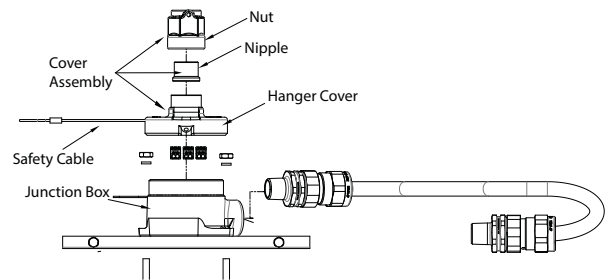

Figure 11
10. Remove the cover assembly from the junction box (see Figure 11).
13. With the nut fully tightened, screw the cover assembly onto the conduit support until the conduit and nipple are fully engaged (See Figure 11).
20. Tighten the three (3) set screws on the nut.